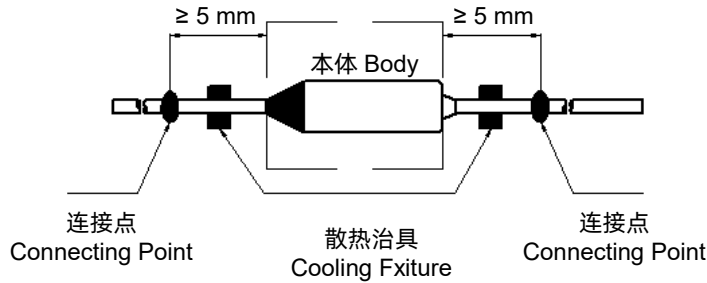

图2 FIGURE 2
- 引线上的连接点距离温度保险丝本体应 ≥ 5 mm (参考图2)。
The connection point of the lead shall be no less than 5 mm away from the OTCO body (see Fig.2).
- 在钎焊过程中，焊点与温度保险丝之间应使用散热装置 (参考图2)。
In the process of soldering, cooling fixture should be used between soldering point and OTCO body (see Fig.2).
3. 在点焊过程中，焊点与温度保险丝之间应使用散热装置（参考图2）。
In the process of welding, cooling fixture should be used between welding point and OTCO body (See Fig.2).